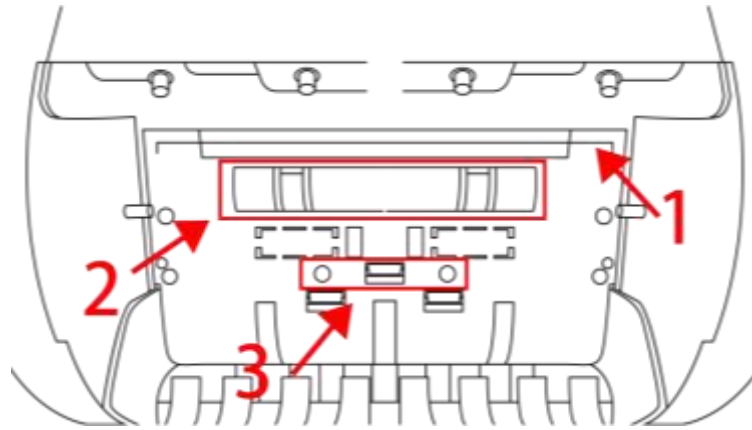

Figure 131
2) As in Figure 131, wipe the CIS sensor of Marker 1 in one direction with a dust-free cloth, and clean the brush stick of Marker 2 and the lower UV sensor of Marker 3 with a nylon brush.